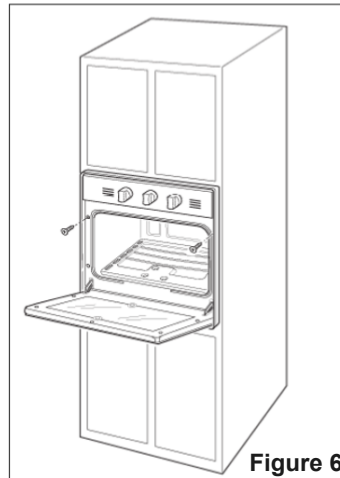

Figure 6
For safety considerations, the wall oven shall be fastened to the cabinet using two (2) suitable screws through the holes of the trim (See **Figure 6**). The unit must be properly leveled before being secured to the cabinet.